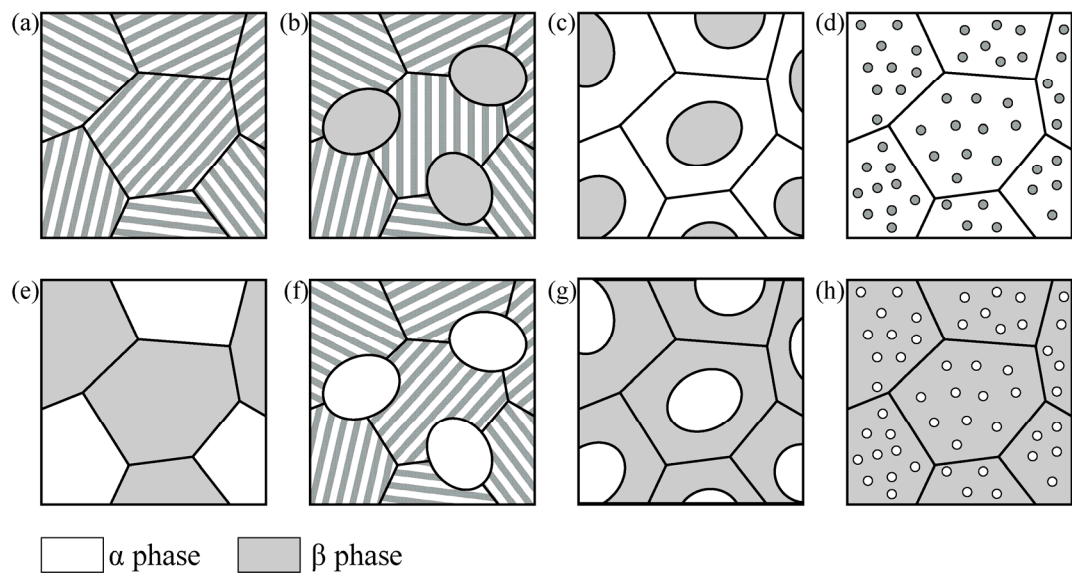

Figure 3
1. Samples of each composition c_1 , c_2 , and c_3 were held at temperature T_1 , then slowly cooled and solidified under equilibrium condition. For each sample, select the most appropriate schematic diagram of the typical microstructure at temperature T_2 from Figure 3. Also, describe the formation process of each microstructure in approximately 20 words for each.